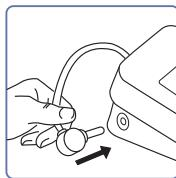

Fig. 1
- Plug the air hose into the connector (Fig. 1).